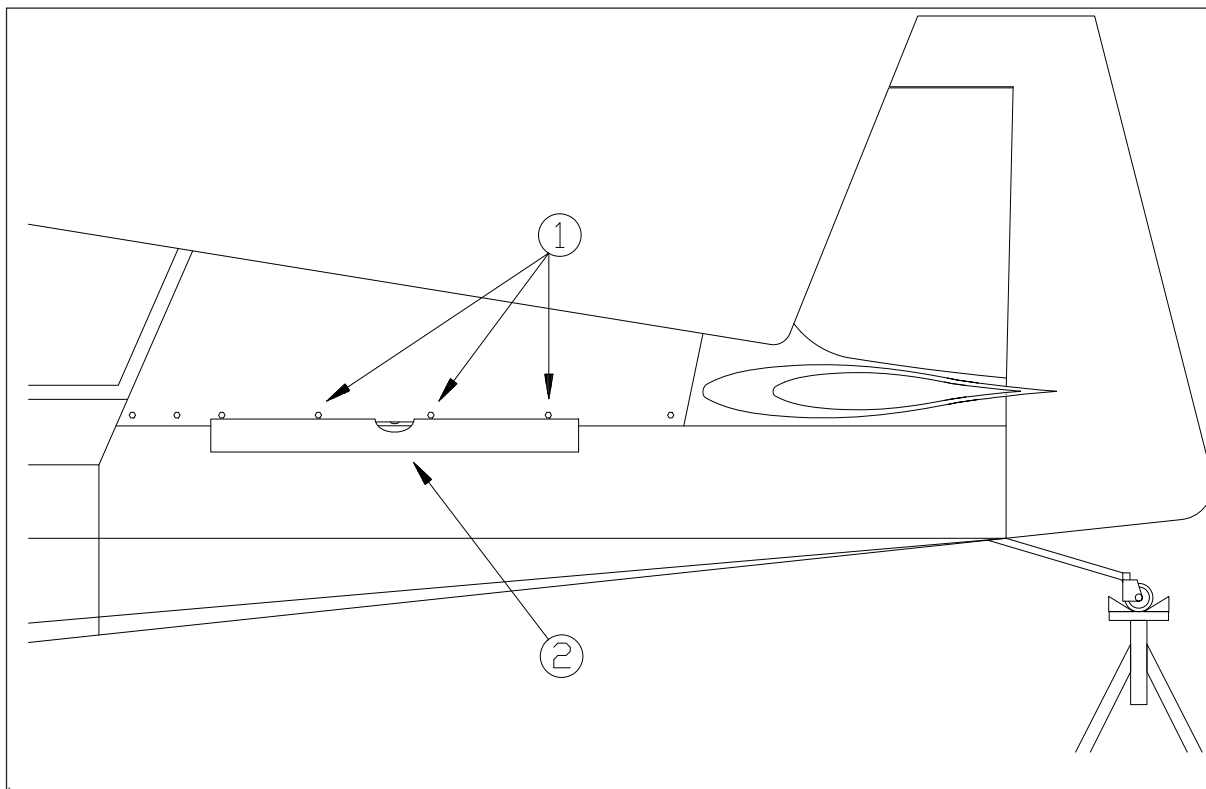

Figure 1
- 3 Level the aircraft to its horizontal reference line using a spirit level (2), which is to put under the bolts of the rear main fuselage cover (1, Figure 1). Adjust pitch by changing the jack height.